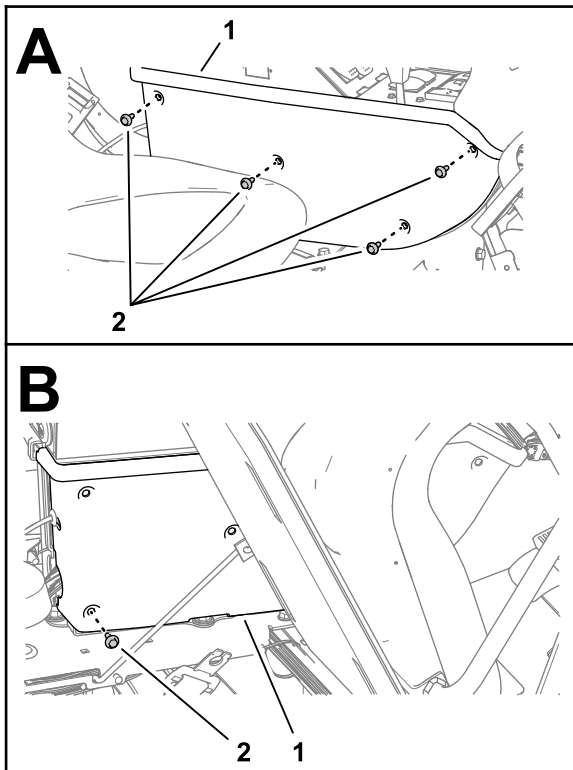

Figure 177
2. Remove 4 flange-head capscrews (1/4 x 3/4 inch) that secure the side panel of the center console as shown in Figure 177.
3. Tilt the passenger seat forward, and remove the lower rear flange-head capscrew (Figure 177).